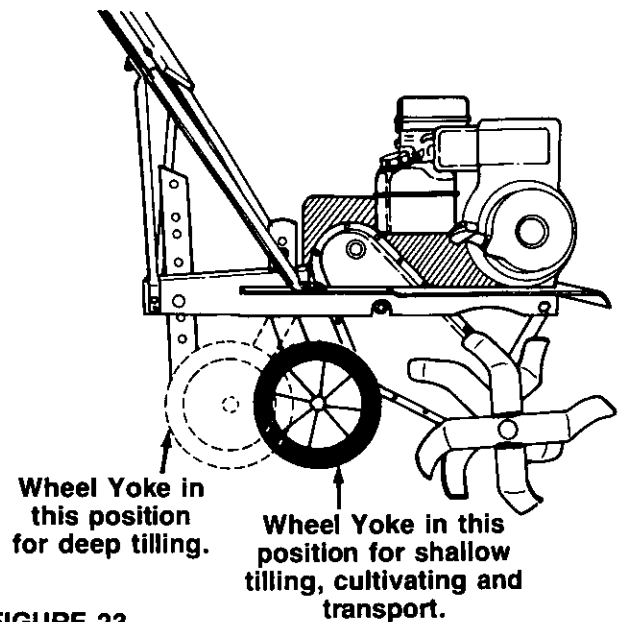

FIGURE 23.
1. **Wheel Yoke Adjustment:** Place wheel yoke so that the wheels are forward (nearest point between wheels and tines) for shallow tilling, cultivating and transport. The forward speed will increase. Turn yoke around (farthest point between wheels and tines) for deep tilling. Forward speed will decrease. See figure 23.